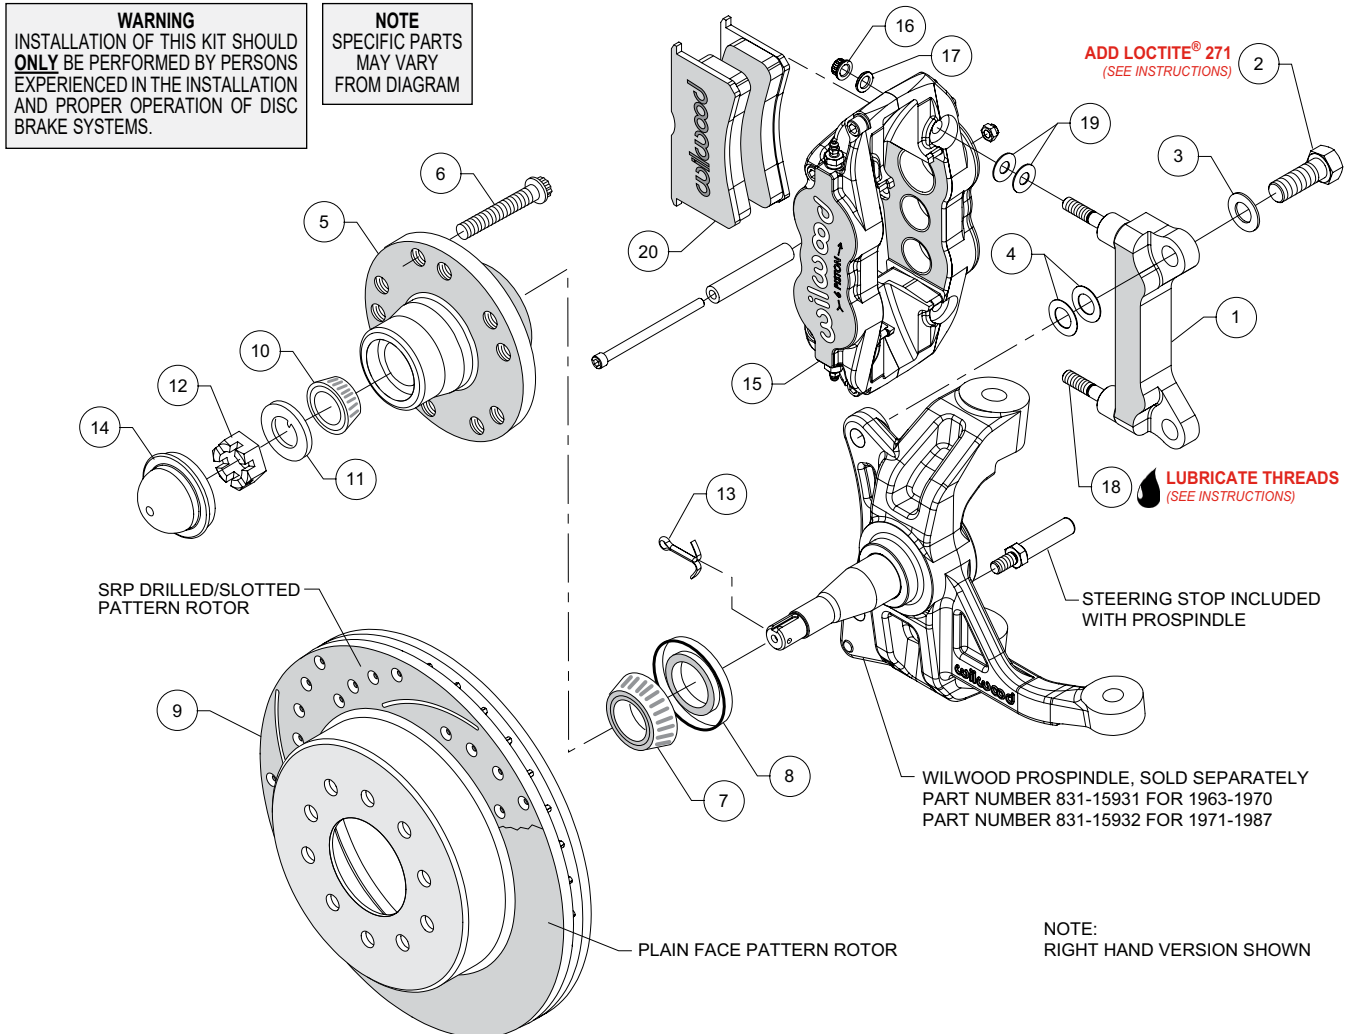

Figure 1. Typical Installation Configuration
NOTE: Numbers in parenthesis refer to the parts list and Figure 1 on the preceding pages.
- Install the steering stop bolt (included with the ProSpindle) into the spindle as shown in Figure 1 and Photo 1. Torque to 25 ft-lbs.
- The caliper mount bracket (1) should initially be installed with clean, dry threads on the mounting bolts. Orient the bracket, as shown in Figure 1 and Photo 2, and install using bolts (2) and washers (3). Initially place two .024" thick shim (4) on each bolt between the bracket and spindle, Figure 1. Temporarily tighten the mounting bolts. **NOTE:** *The bracket must fit squarely against the mount bosses on the spindle.* Inspect for interference from casting irregularities, machining ridges, burrs, etc. Later, after the caliper alignment has been checked, the mount bolts will be secured using red Loctite® 271.
- Install wheel studs (6) into the hub (5), Photo 3. Torque to 77 ft-lb. **NOTE:** *There are two five lug patterns in the hub (5 x 4.75 and 5 x 5.00).* Ensure the correct hub stud pattern is being used to fit the wheel application.
- Pack the large inner bearing cone (7) with high temperature disc brake bearing grease (available from your local auto parts store) and install into the backside of the hub (5), Photo 4.
- Install the grease seal (8) by pressing into the backside of the hub (5), flush with the end of the hub, Photo 5.
- Pack the small outer bearing cone (10) with high temperature disc brake bearing grease and install into hub (5). Slide the hub assembly onto the spindle. Secure using spindle washer (11) and spindle nut (12), Photo 6. Adjust bearings per OEM specifications. Install a new cotter pin (13).
- Press the dust cap (14) into the hub (5). **NOTE:** *Do not hammer center of cap. Install using outer flange only.*
- Slide the hat/rotor (9) onto the hub (5), Photo 7. **NOTE:** *The hat must fit flush against the hub face or excessive rotor run out may result.* Install three lug nuts (finger tight) to keep the hat/rotor in place while continuing with the installation.
- NOTE:** *This kit contains distinct right and left hand calipers that must be mounted in a specific direction, as described below.* Lubricate the caliper mounting studs (18) with lightweight oil. Initially place two .035" thick shims (19) on each stud between the caliper and the bracket, as shown in Figure 1 and Photo 8. Mount the caliper (15) onto the bracket (1) using lock nuts (16) and washers (17), Figure 1. Temporarily tighten the lock nuts. Ensure that the caliper is mounted so that the largest pistons are at the rotor exit end of the caliper, in relation to the direction of rotor rotation. View the rotor through the top opening of the caliper. The rotor should be centered in the caliper, Photo 9. If not, adjust by adding or subtracting shims (4) between the bracket and the spindle. Always use the same amount of shims